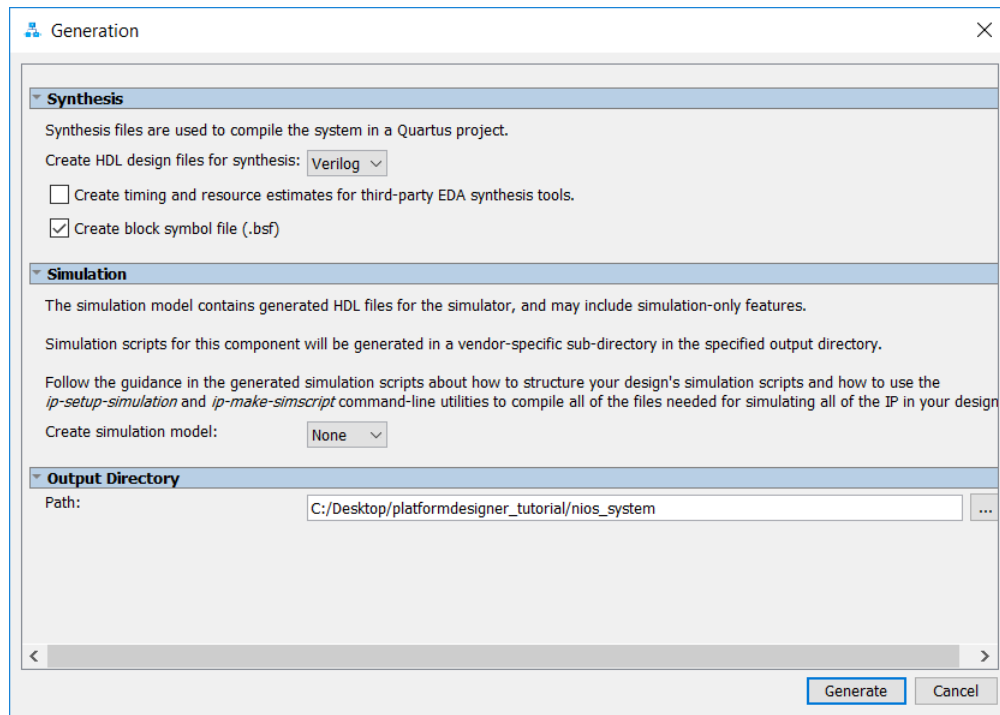

Figure 19. Generation of the system.
- Having specified all components needed to implement the desired system, it can now be generated. Save the specified system; we used the name *nios\_system*. Then, select **Generate > Generate HDL**, which leads to the window in Figure 19. Select **None** for the option **Simulation > Create simulation model**, because in this tutorial we will not deal with the simulation of hardware. Click **Generate** on the bottom of the window. When successfully completed, the generation process produces the message “Generate Completed”.